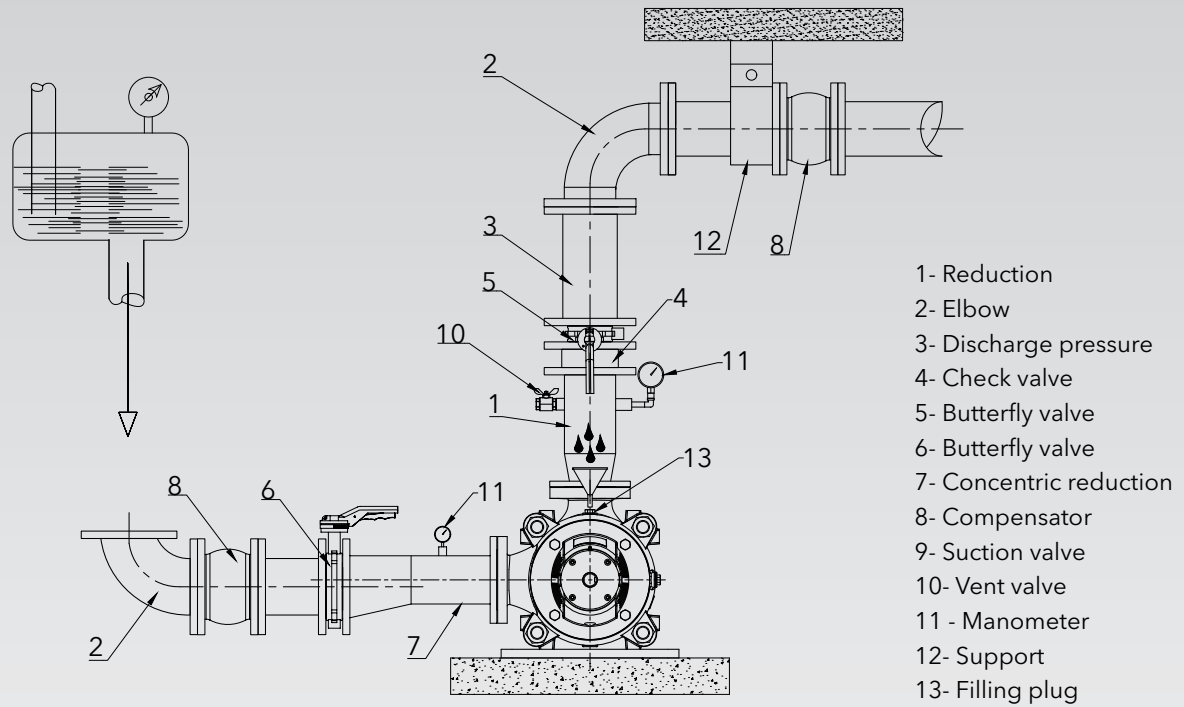

Figure 7
- The piping is fixed near the pump and connected without transferring any tension or stress, see Figure 7 on page 22.